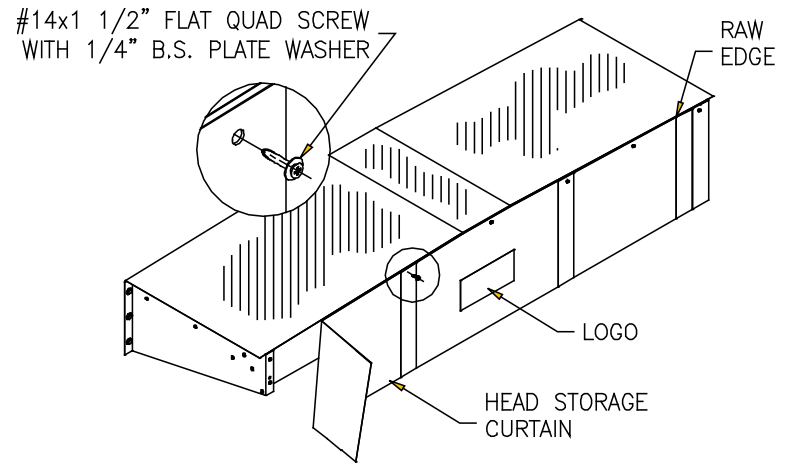

FIG. 13
### a. Position and secure head storage curtain (Fig. 13).
- Match top center of head storage curtain with top center of head frame (Figure 13).